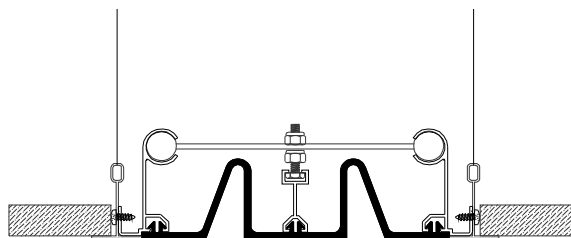

Figure 14
**STEP 25.** Install the ceiling tiles (by others) onto the tees in accordance with the tee manufacturer's instructions (see Figure 14).